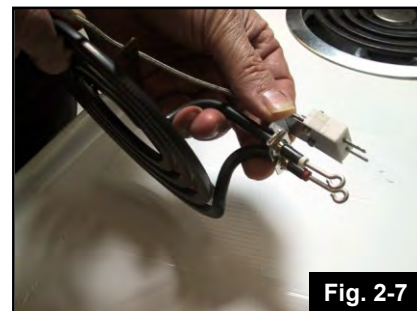

Fig. 2-7
6. Hold the thermocouple wire bracket in place.(Fig.2-7) Where possible, the bracket must be mounted behind the existing element grounding bracket. Where this is not possible, the temperature sensor bracket may be mounted in front of the element grounding bracket provided the following requirements are met: